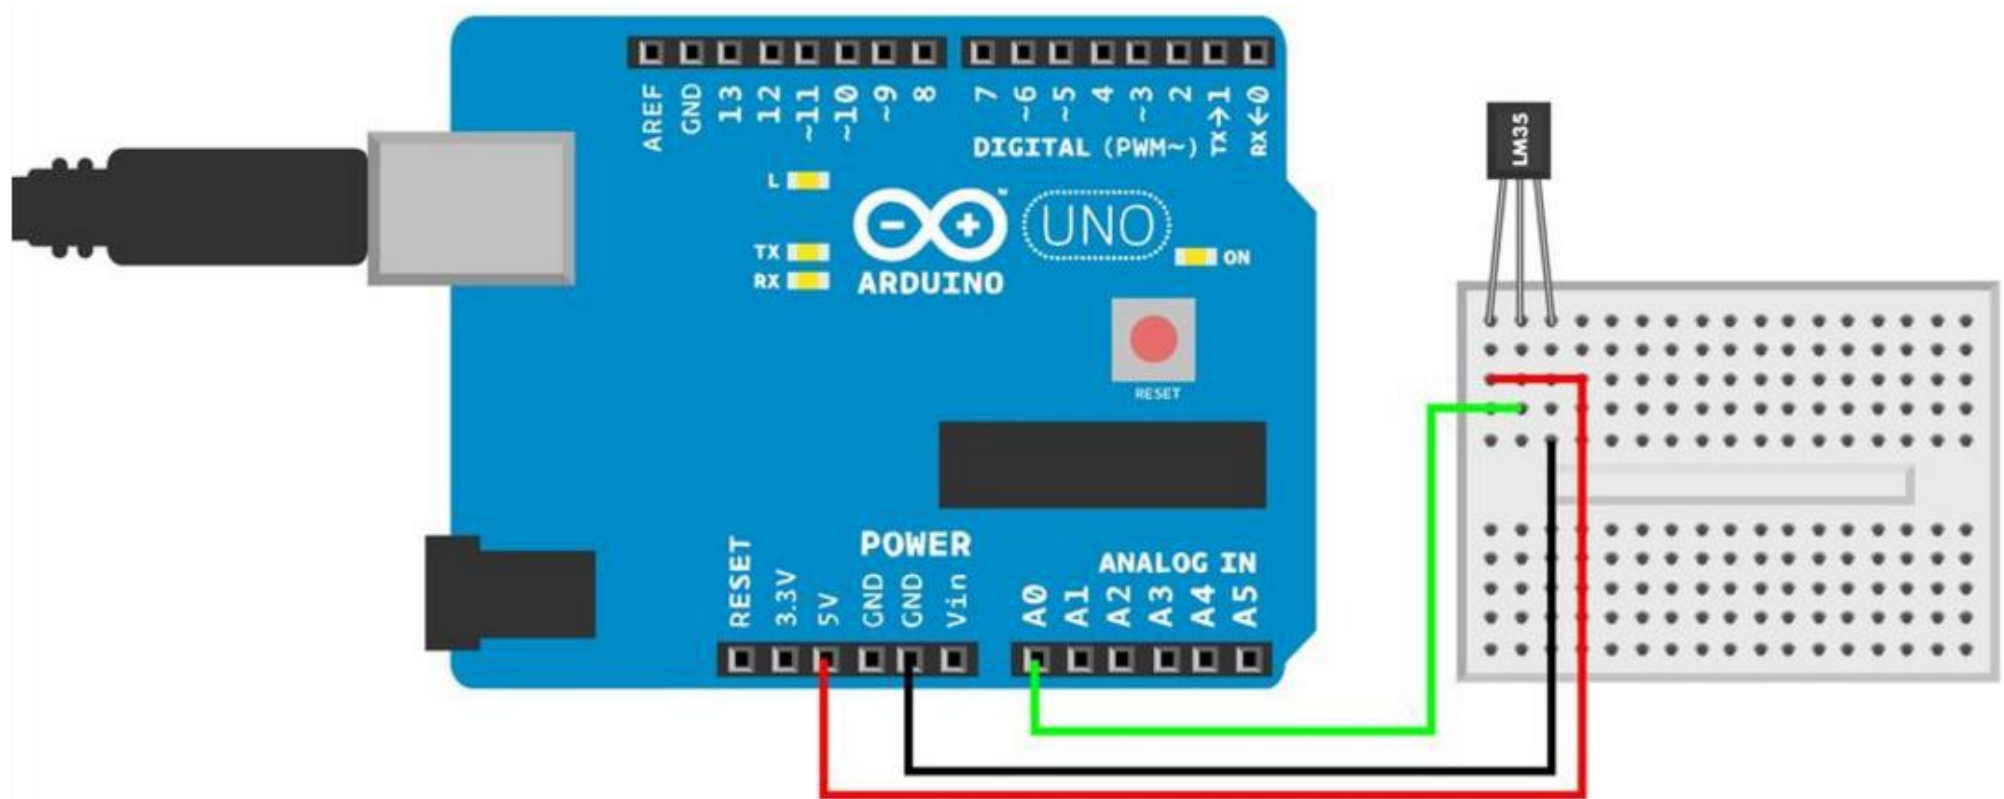

Figure 12-2. Arduino/LM35 connections
- Figure 12-2 shows the wiring diagram for Arduino. Hook it up as shown, and then run the code from Example 12-1.